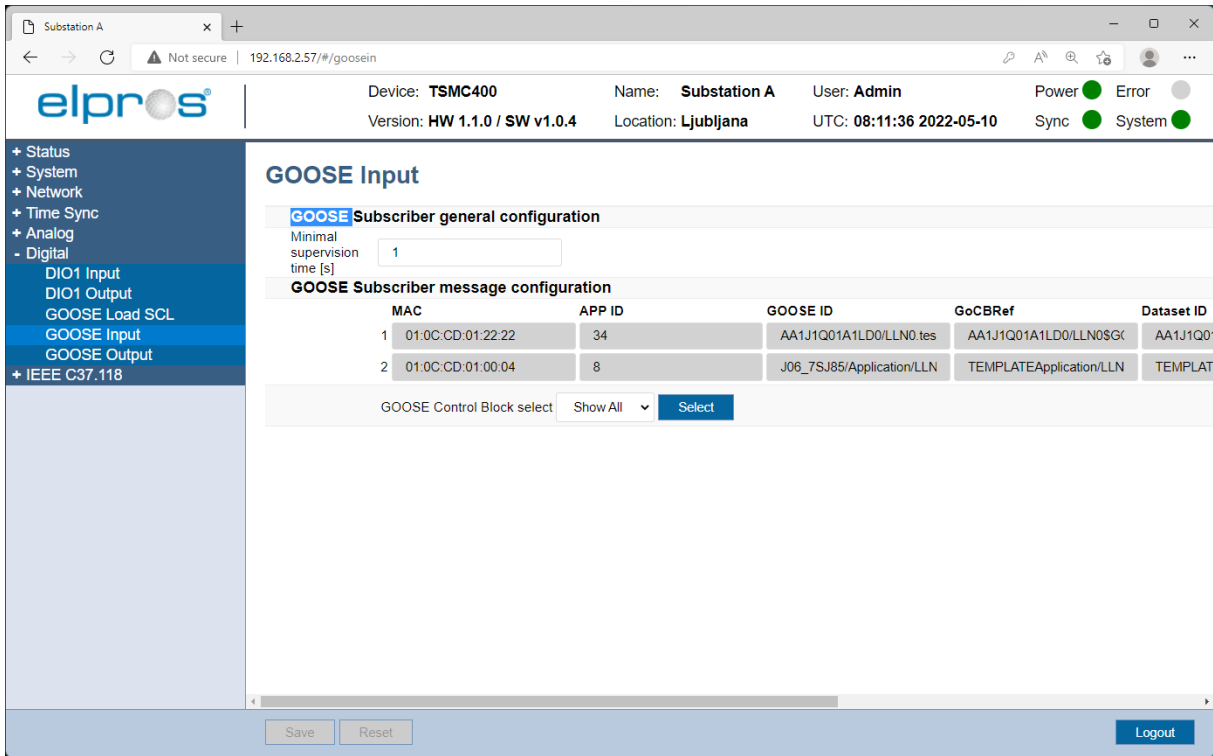

Figure 35: GOOSE input configuration 1/2
2. Select the control block to be configured in “GOOSE Control Block select” drop down menu and click “Select”, see Figure 35.